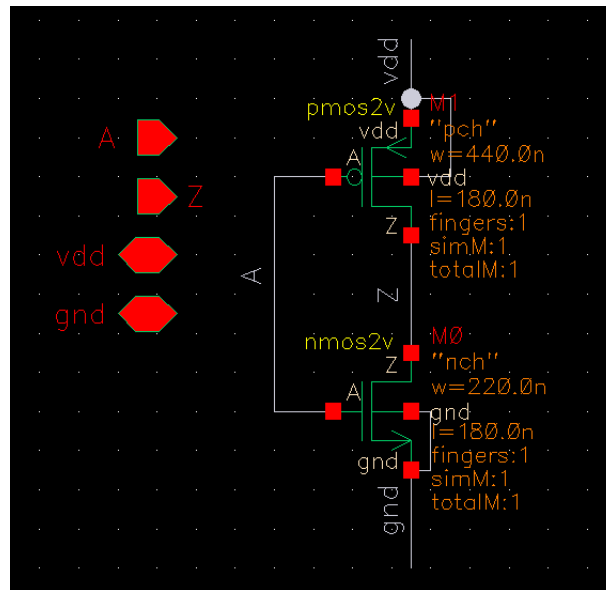

Figure 1.16: CMOS inverter schematic.
- Your schematic should look like Fig. 1.16. Don't forget to Check and Save your schematic and ensure there is no errors or warnings.